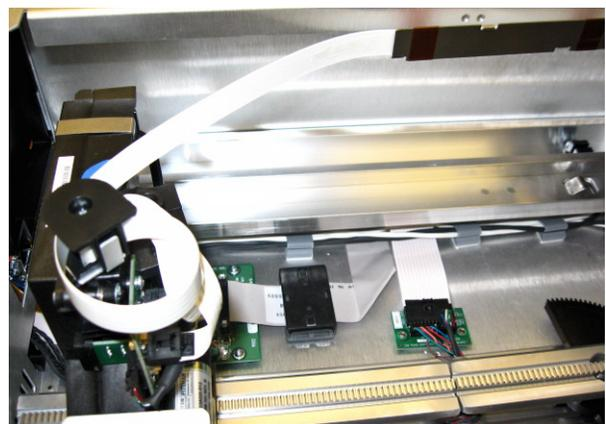

Figure 6. Flex Cable Position Around Shuttle Spooler
- Carefully lift the **shuttle** and position it at the open end of the track, checking that there are **NO** twists in the flex cable (Figure 6).